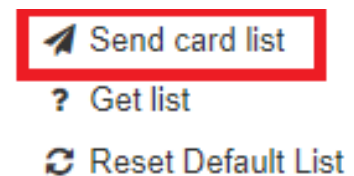

Figure 9.3
4. In the socket panel, click the “Card List Management” button and then the “Send List” button (see Figure 9.3).